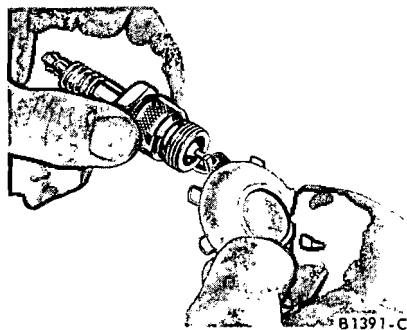

FIG. 32—Checking Spark Plug Gap
Set the spark plug gap to specifications by bending the ground electrode (Fig. 32).
2. Remove the brackets from the old spark plug wire set and install them on the new set in the same relative position. Install the wires in the brackets on the valve rocker arm covers (Fig. 32). Connect the wires to the proper spark plugs. Install the coil high tension lead. Be sure the No. 7 spark plug wire is positioned in the bracket as shown in Fig. 32.